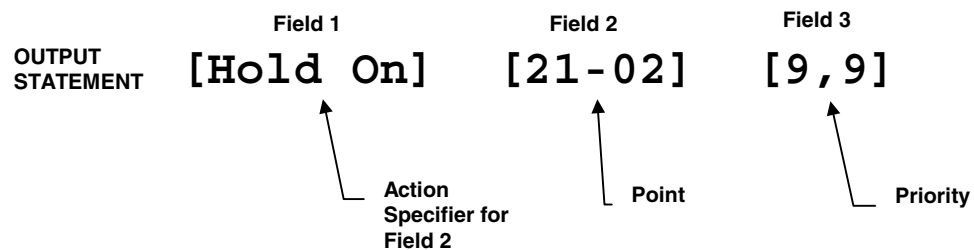

Figure 8-32
In Figure 8-32, point 23-02 will HOLD ON (IF the Input is true) at a Set priority of 9. This Output statement will maintain control of this point until another output statement with an equal (9) or greater Set priority takes over. The possible ranges for a priority are from 1 to 15, 1 being the highest and 15 being the lowest priority. By default, the priority is 9. When changing a priority, press Function and then press <▶> to place the cursor under the Set priority. Use <Next> and <Previous> to scroll through the priorities. Press <▶> to place the cursor under the Reset priority. Use <Next> and <Previous> to scroll through the priorities and then press <Enter> to program the priorities selected.